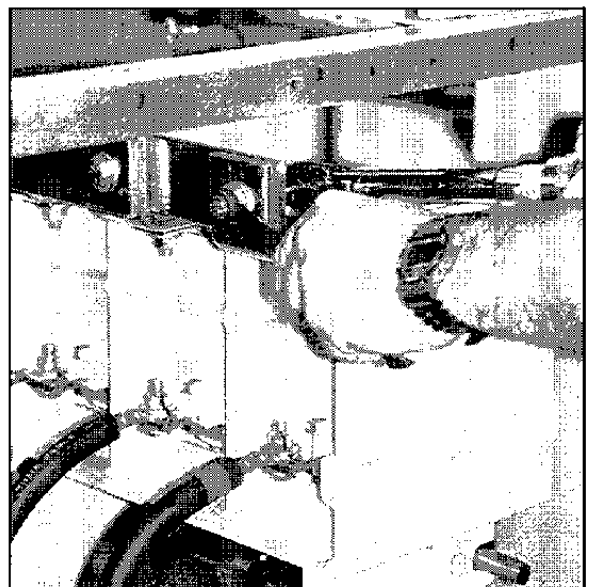

Fig. 40 Check Connections
- Check connections - Although the equipment and devices have been completely tested at the factory, a final field check should be made that all electrical wiring and bus bar connections are correct and have not become loose in transportation (Fig. 40). Refer to MAINTENANCE Section for electrical joint specification.